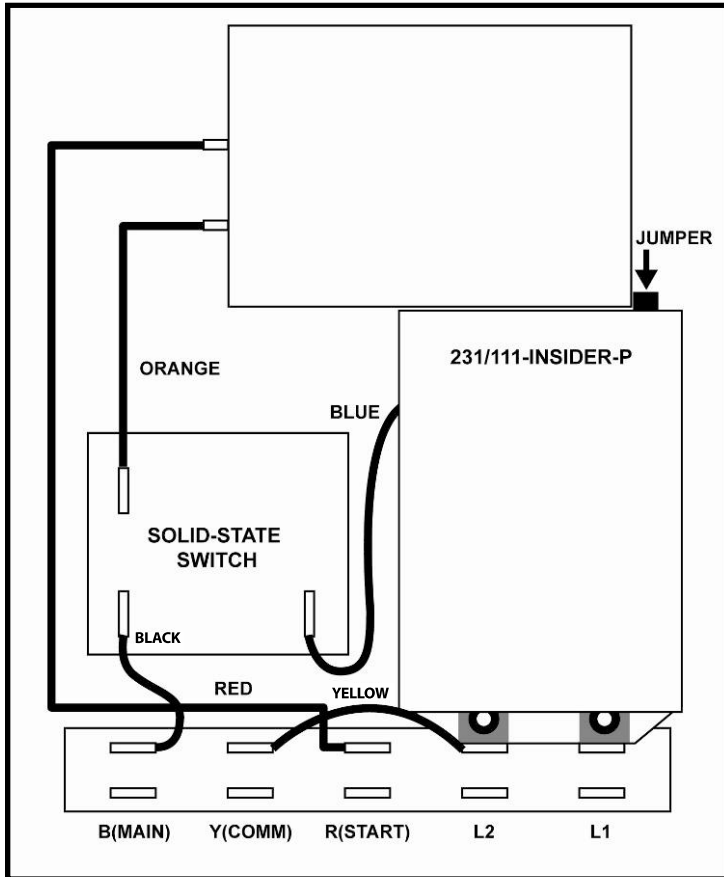

FIGURE 10: Location of Rapid-Cycle Jumper
1. Locate the Rapid-Cycle Jumper in the upper-right corner behind the faceplate of the PumpSaver®Plus. See Figure 10 for location of jumper.
2. Remove the Rapid-Cycle Jumper (See Figure 10). The jumper may be removed before